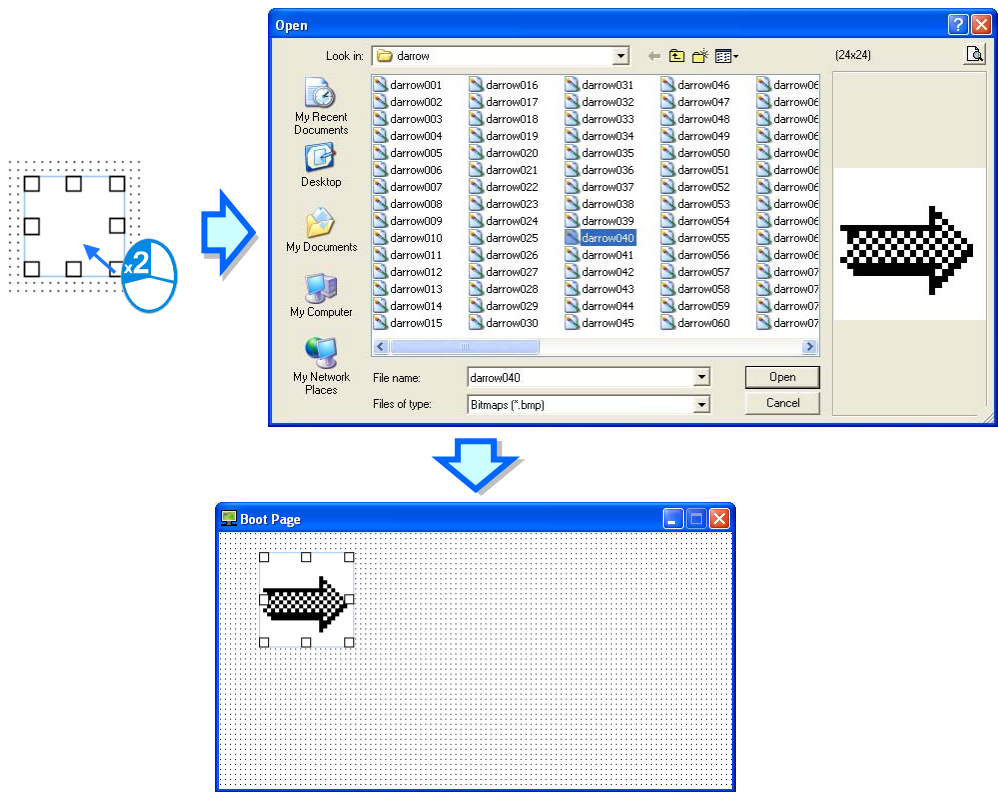

Figure 6-10 Selecting a static image
- Step 3: After the users double-click  in the **Boot Page** window, the **Open** window will appear. The users have to select a .bmp file in the **Open** window. After the users click **Open** in the **Open** window, an image will be inserted in the **Boot Page** window, as shown in Figure 6-10.